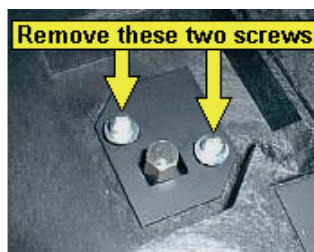

Figure 7 Shipping clamp screws
4. Remove the two screws securing one of the clamp plates, as shown in Figure 7.